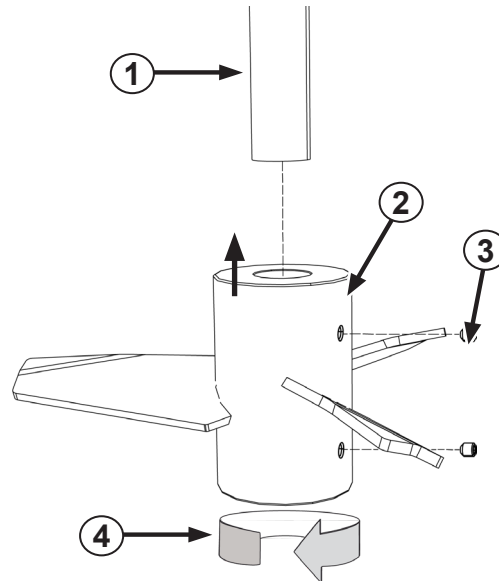

Figure 9. High-Efficiency Impeller
It is important to install the High-Efficiency Impeller (HEI) blades in a specific orientation, see rotation (4) in Figure 9. High-Efficiency Impeller below.